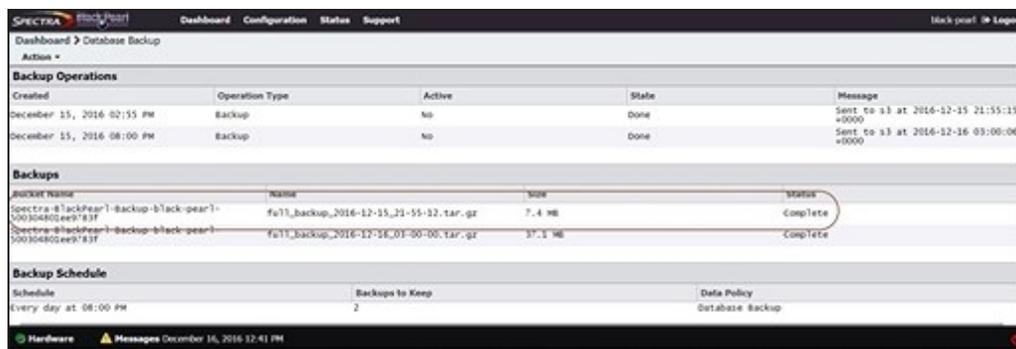

Figure 200 The Database Backup screen.
1. From the menu bar, select **Configuration > Database Backup**. The Database Backup screen displays (see Figure 200 on page 277).